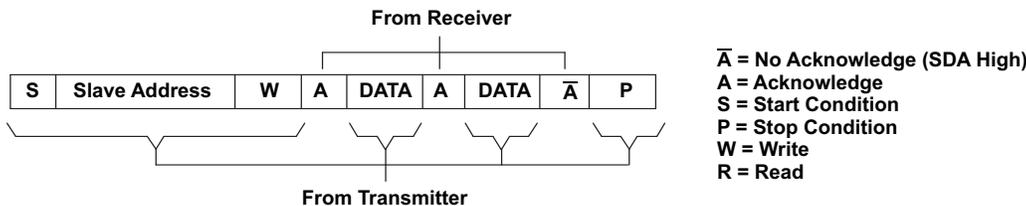
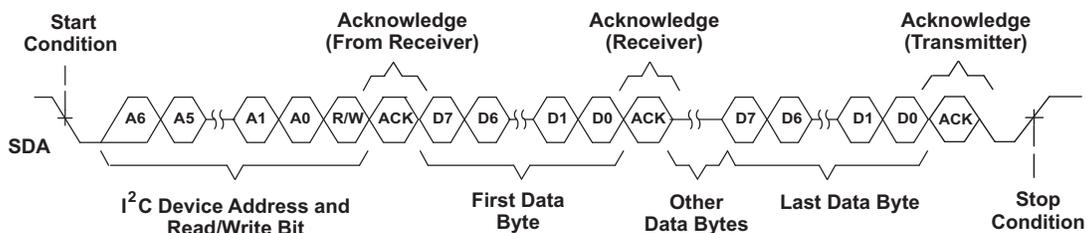
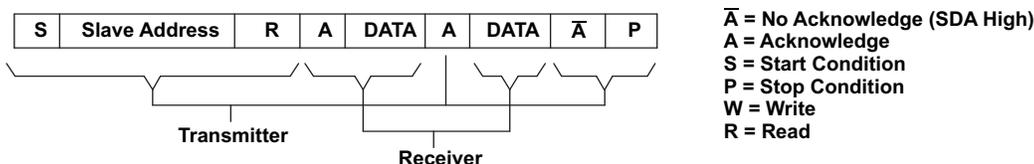
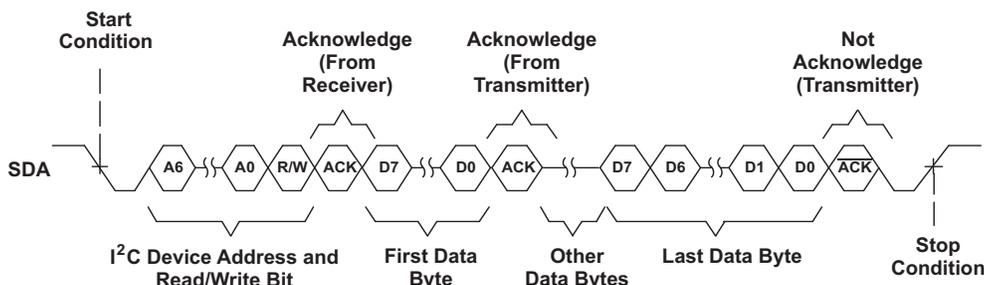

Figure 9. I2C Write Cycle
Figure 10. Multiple Byte Write Transfer
Figure 11. I2C Read Cycle
Figure 12. Multiple Byte Read Transfer
During a write cycle, the transmitting device must not drive the SDA signal line during the acknowledge cycle, so that the receiving device may drive the SDA signal low. After each byte transfer following the address byte, the receiving device pulls the SDA line low for one SCL clock cycle. A stop condition is initiated by the transmitting device after the last byte is transferred. Figure 9 and Figure 10 show an example of a write cycle. Note that the THS7347 does not allow multiple write transfers to occur. See the example, **Writing to the THS7347**, in **WRITE AND READ EXAMPLES** for more information.
During a read cycle, the slave receiver acknowledges the initial address byte if it decodes the address as its address. Following this initial acknowledgment by the slave, the master device becomes a receiver and acknowledges data bytes sent by the slave. When the master has received all of the requested data bytes from the slave, the not acknowledge ( $\bar{A}$ ) condition is initiated by the master by keeping the SDA signal high just before it asserts the stop (P) condition. This sequence terminates a read cycle, as shown in Figure 11 and Figure 12. Note that the THS7347 does not allow multiple read transfers to occur. See the example, **Reading from the THS7347**, in **WRITE AND READ EXAMPLES** for more information.
The THS7347 operates using only a single-byte transfer protocol similar to that illustrated in Figure 9 and Figure 11. The internal subaddress registers and the functionality of each are given in Table 2. When writing to the device, it is required to send one byte of data to the corresponding internal subaddress. If control of all three channels is desired, then the master must cycle through all the subaddresses (channels) one at a time; see the example, Writing to the THS7347 (in WRITE AND READ EXAMPLES) for the proper procedure of writing to the THS7347.